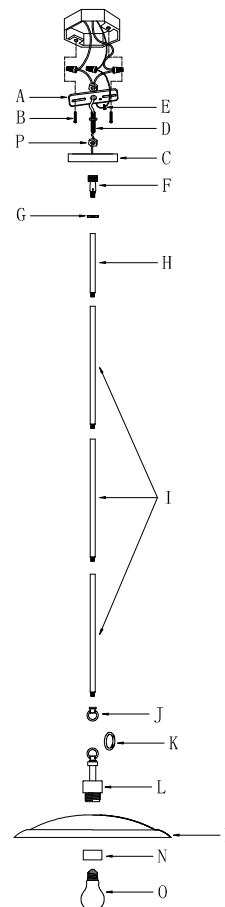

Fig. 2
CONNECTING THE WIRES (Fig. 2)
8. Connect electrical wires as shown in Fig.2, making sure that all wire connectors are secured. If your junction box has a ground wire (green or bare copper), connect fixture's ground wire to it. Otherwise, connect ground wire directly to crossbar (A) using green screw provided.